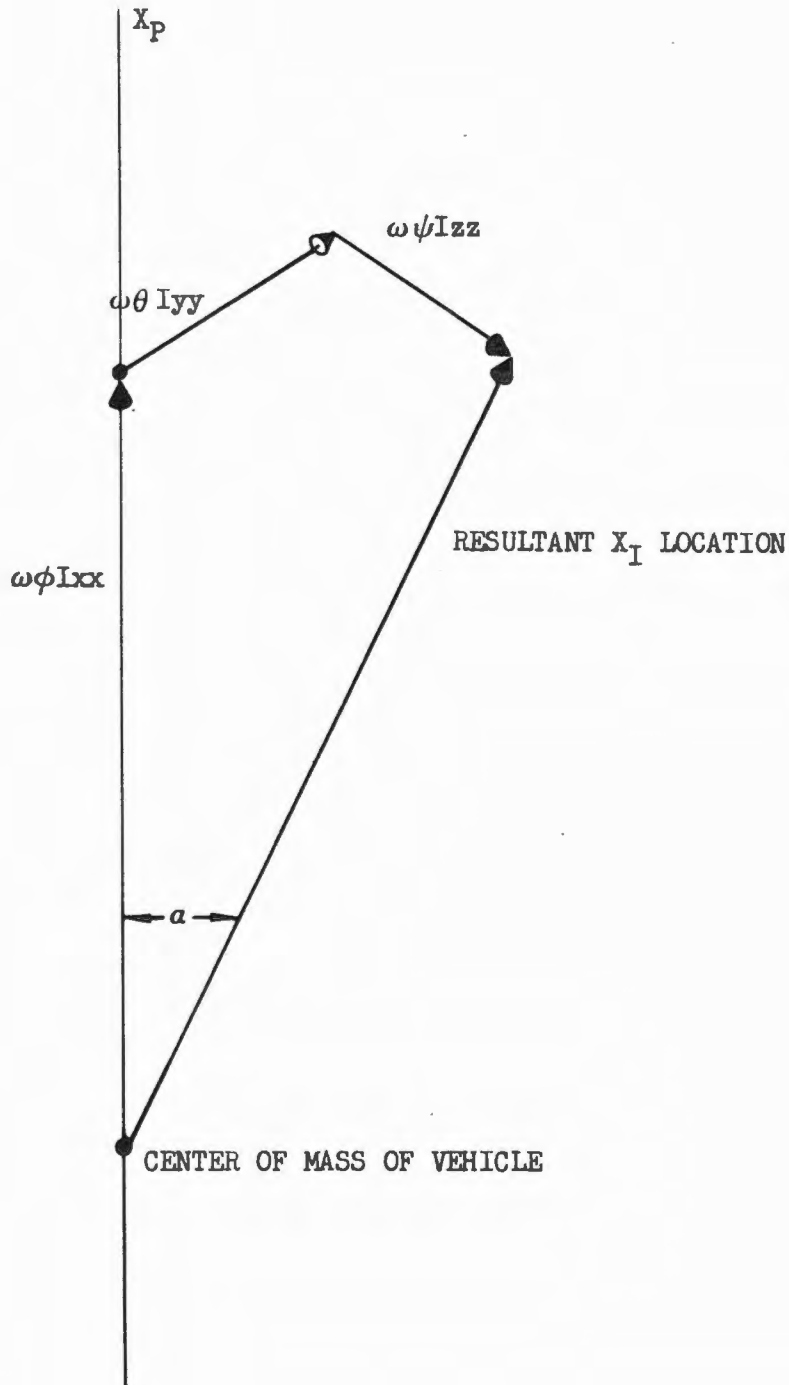

Figure 5-2. Angular Monentum Vector
5.1.2.2.2 The vehicle principal axes angular momentums will now add vectorially (as illustrated in Figure 5-2) to produce a vector offset from the principal X axis by the angle α . The magnitude of α will be determined by the magnitudes of the pitch (ω_θ), yaw (ω_ψ) and roll (ω_ϕ) rates and the moments of inertia for the three axes. The direction of α in the Y-Z plane will be determined by the vector sum of ω_θ and ω_ψ . Since for the general case we have allowed ω_θ and ω_ψ to have any sense, the inertial axis (X_I) about which the vehicle will rotate may be offset in any direction from X_p . The formula for determining α is given below: